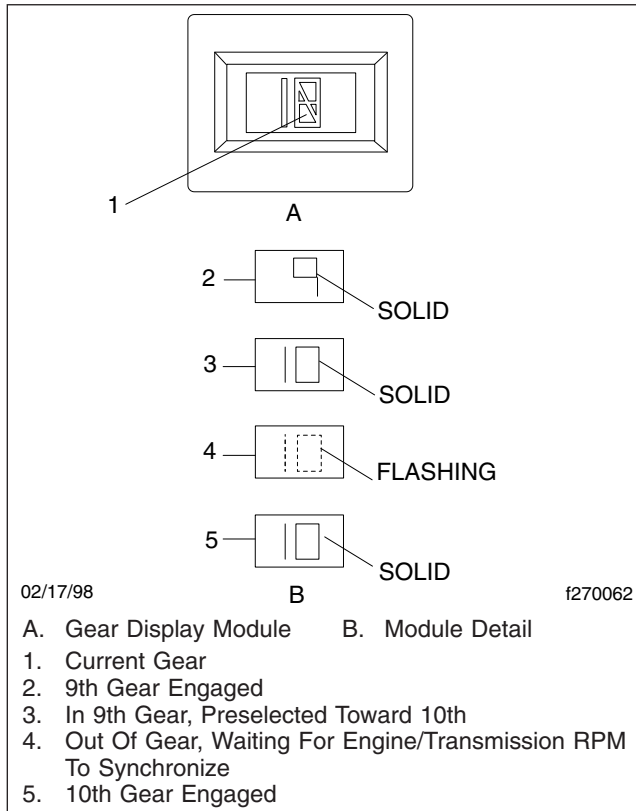

Fig. 14.2, Gear Display Module
- The gear display module mounted on the dashboard indicates the current gear position or transmission status. The display also flashes the next gear to be engaged while the transmission is in neutral during a gear change. See Fig. 14.2.